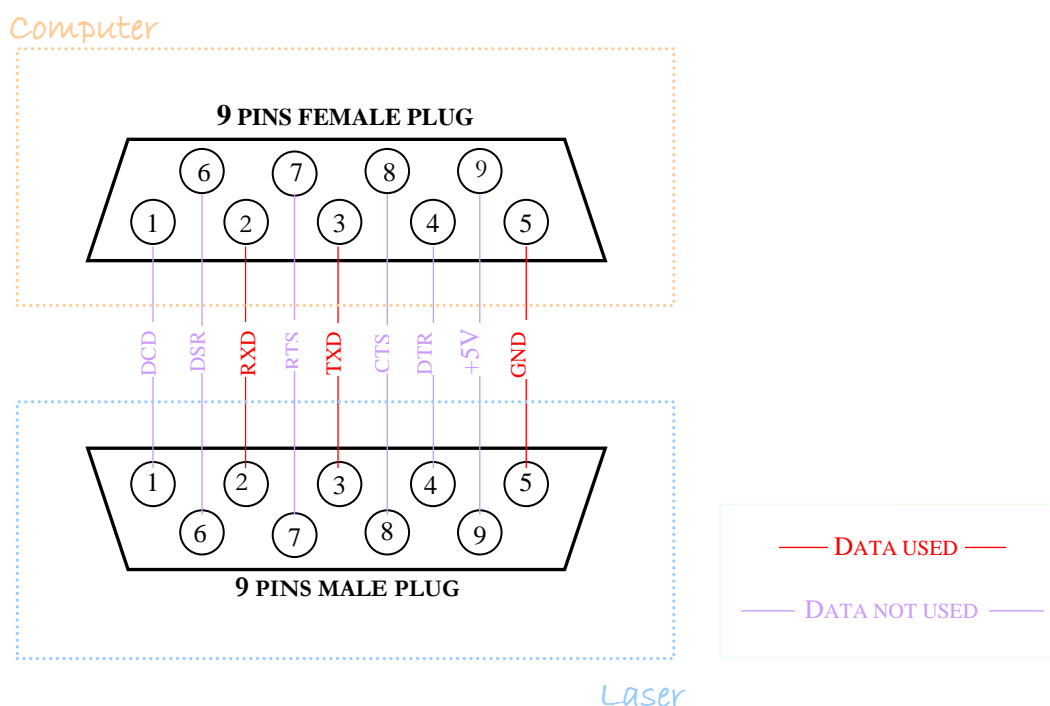

Figure III-4
8. **Remote Box Interface (RB):** (DIN Connector) All operating parameters and settings for laser control can be accessed when the Remote Box is connected to the laser power supply.
15. **PIV Lamp #2 In:** (BNC Connector) Provides external synchronization of the flashlamp fire order for the second laser head of a PIV laser pair when External Flashlamp Trigger Mode is selected via the Remote Box or serial interface. The trigger source must be capable of supplying a pulse with the following characteristics: Amplitude: $+5V_{\text{NOM}}$ into 50 ohms, Pulsewidth: 10 μ s to 100 μ s as described in figure III-4.
The host computer has to incorporate an RS 232 command format, and the cable to the ICE should not exceed 20 m. The standard wiring diagram is shown on figure III-4. All wires must be present.